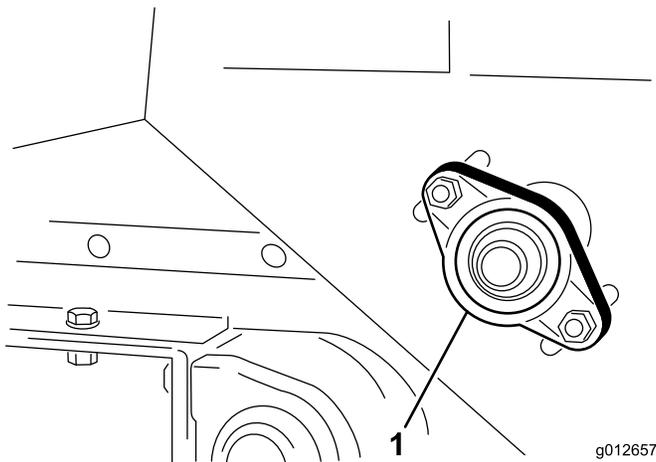

Figure 29
1. Loosen nuts securing bearing housing (Figure 29) to right side of machine.